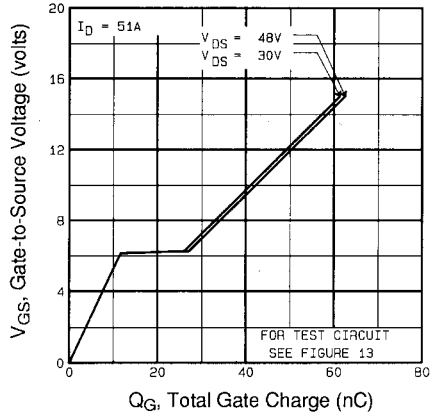

Fig 6. Typical Gate Charge Vs. Gate-to-Source Voltage
| Q _{gd} | Gate-to-Drain ("Miller") Charge | — | — | 25 | | V _{GS} =10V See Fig. 6 and 13 ④ |